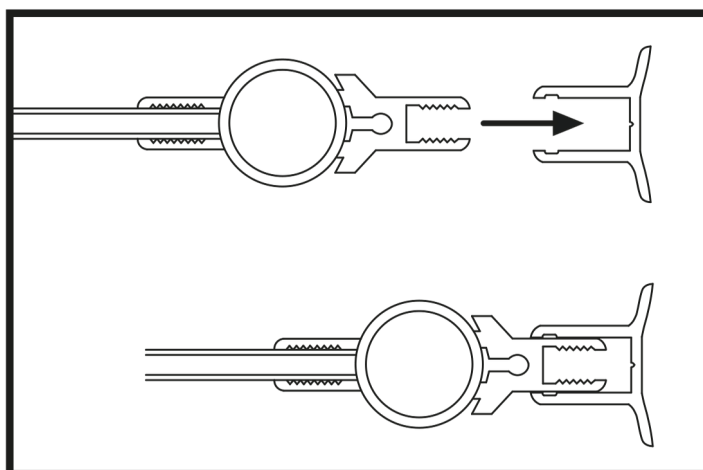

Figure 14
38. Carefully rest the bottom edge of the glass on the support blocks. Move the wall-mounted hinge bar with a mono-hinge into the profile, facing the wall. (Figure 14)